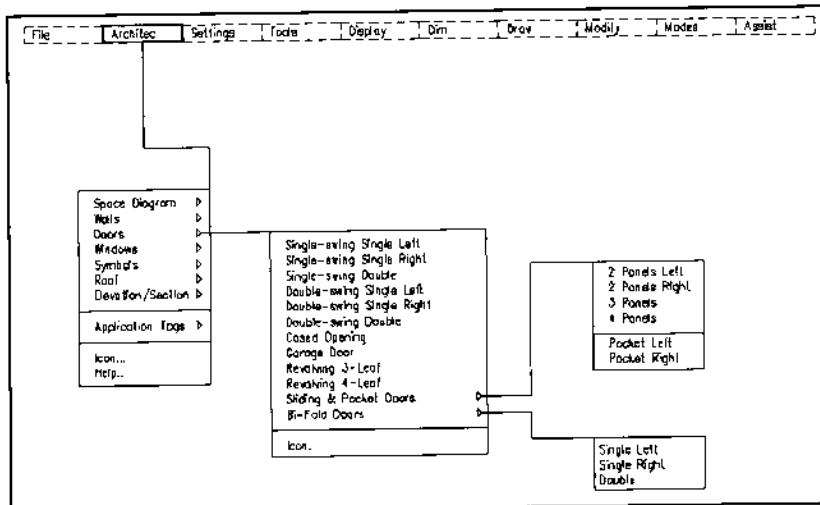
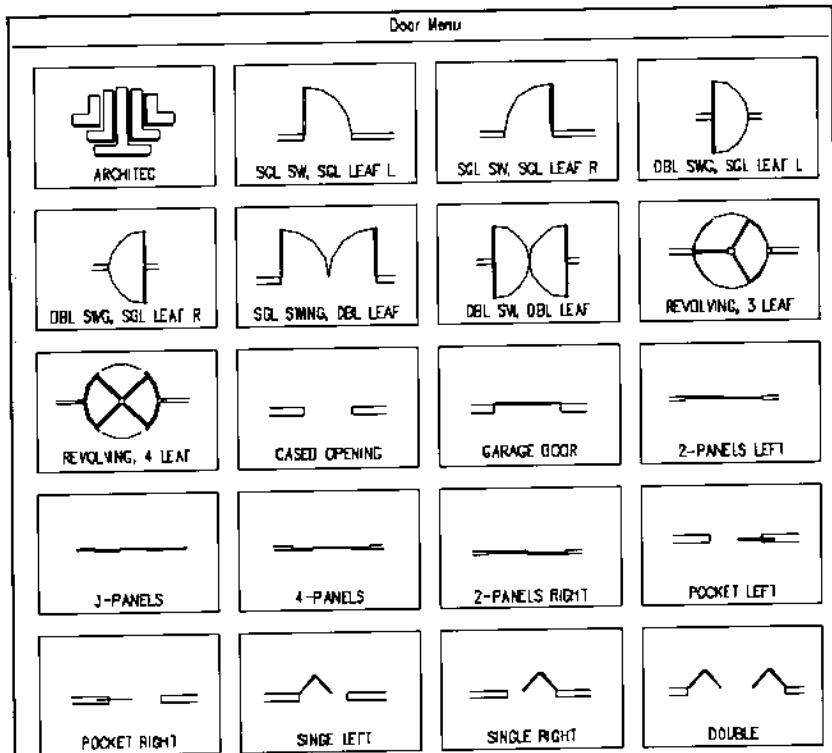

Figure 8.
Figure 9.
1. Choose Door types by picking Doors from the Architec pull-down menu to open a cascading submenu of abbreviated door types as shown in Figure 8, or by picking Icon... to display the Door Menu as shown in Figure 9.